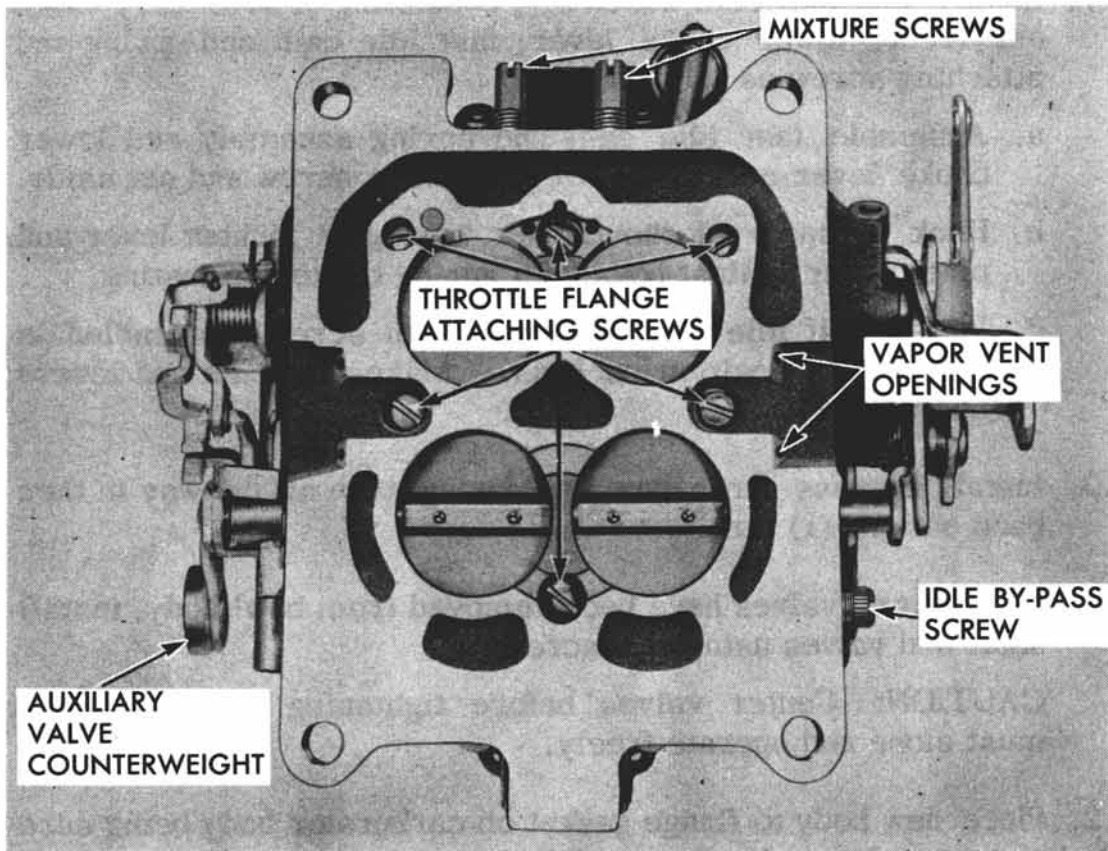

Fig. 6-DC Throttle Flange
1. Install the primary and secondary throttle shafts as illustrated in Fig. 6-DC.